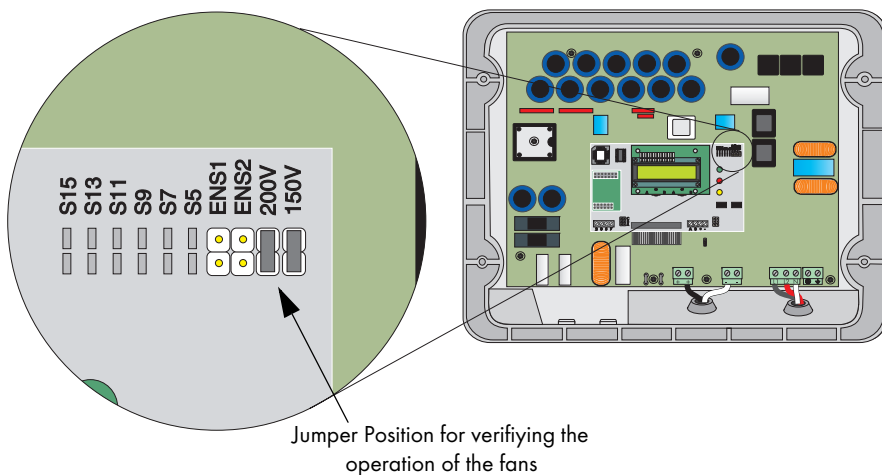

Figure 9-1: Jumper Position for Fan Test
- Once the LED's are off, remove the cover and set the jumpers as shown in Figure 9-1.